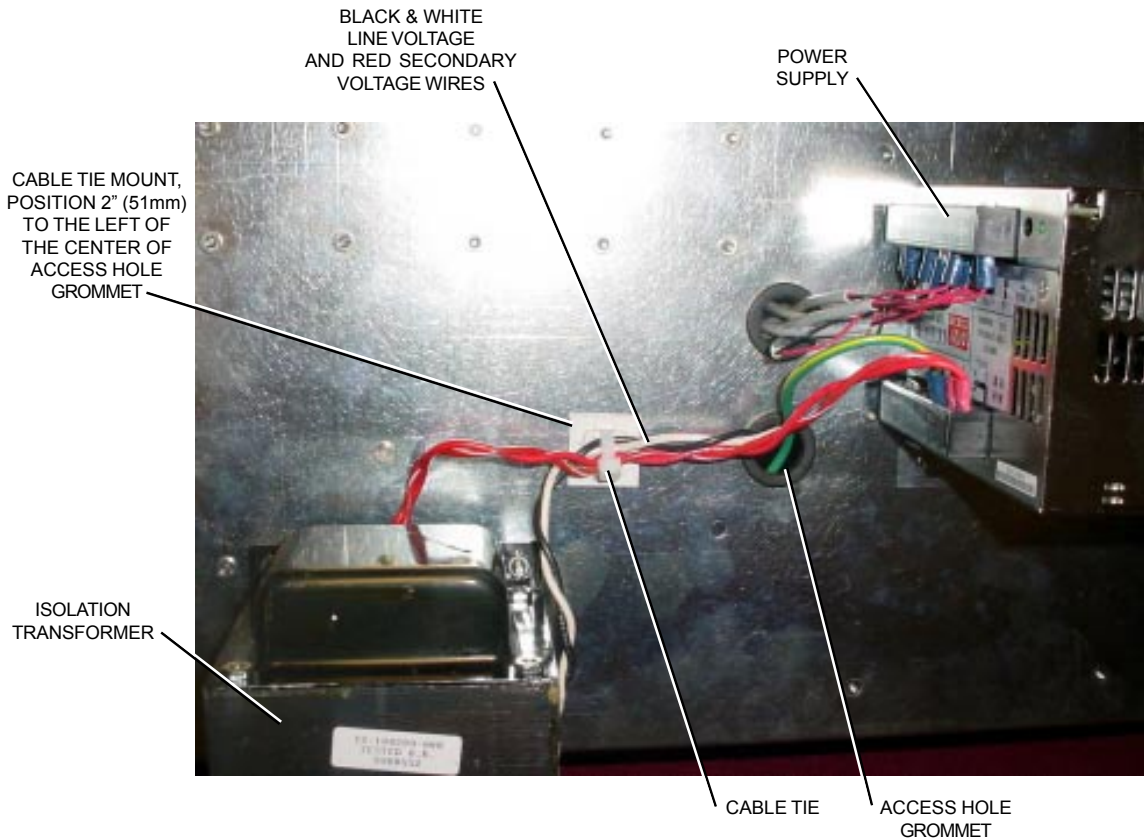

Figure 4
4. Lift the Electrical Control Enclosure out of the machine and set on a work bench. Mark the location where the cable tie mount will be added. This will be approximately 2" (51mm) to the left of the grommet seen in *Figure 4*. Remove the protective backing from the cable tie mount and install by pressing it firmly into place. Take the black and white wires and the two red secondary voltage wires from the Isolation Transformer and secure all the wires with a cable tie to the cable tie mount. Trim off excess cable tie.